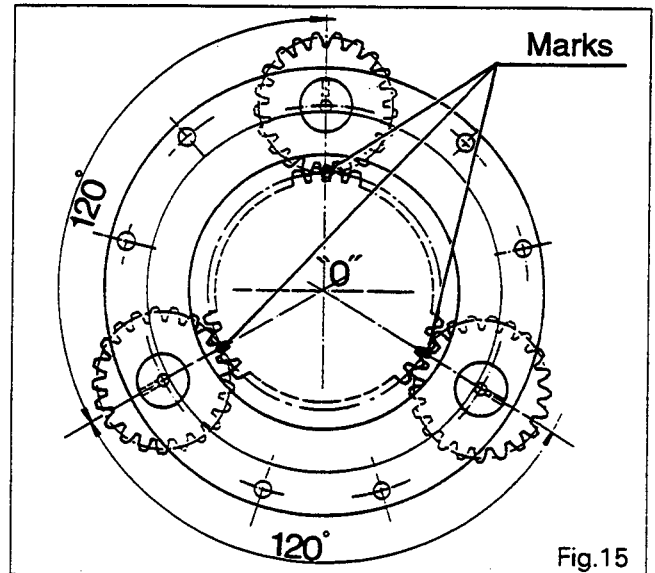

Fig. 15
**N.B.:** The marks (punch marks) on the three planetary gears must line up with the centre on line spaced  $120^\circ$  apart, as shown in Fig. 15.